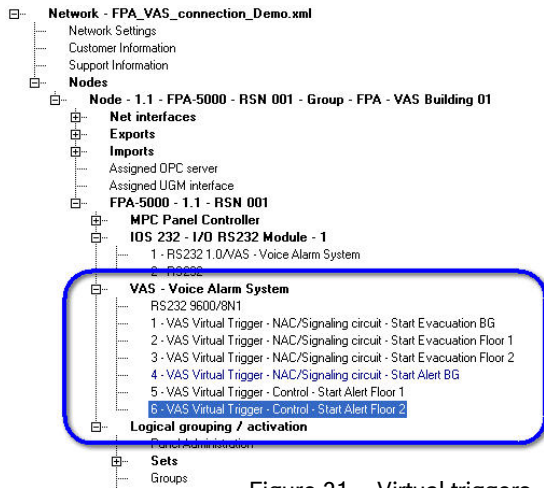

Figure 21 – Virtual triggers
11) The First Virtual Trigger is created; Repeat step 9-10 until all RS-232 triggers as configured in the Voice Alarm System are created. (figure 21)